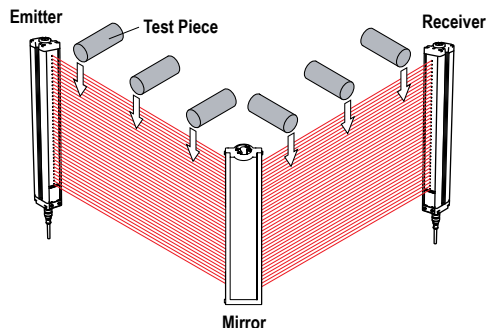

Figure 31. Trip Test with Corner Mirror
5. If mirrors are used in the application: Test the defined area on each leg of the sensing path (for example, emitter to mirror, between mirror and receiver, see Figure 31 on page 43).